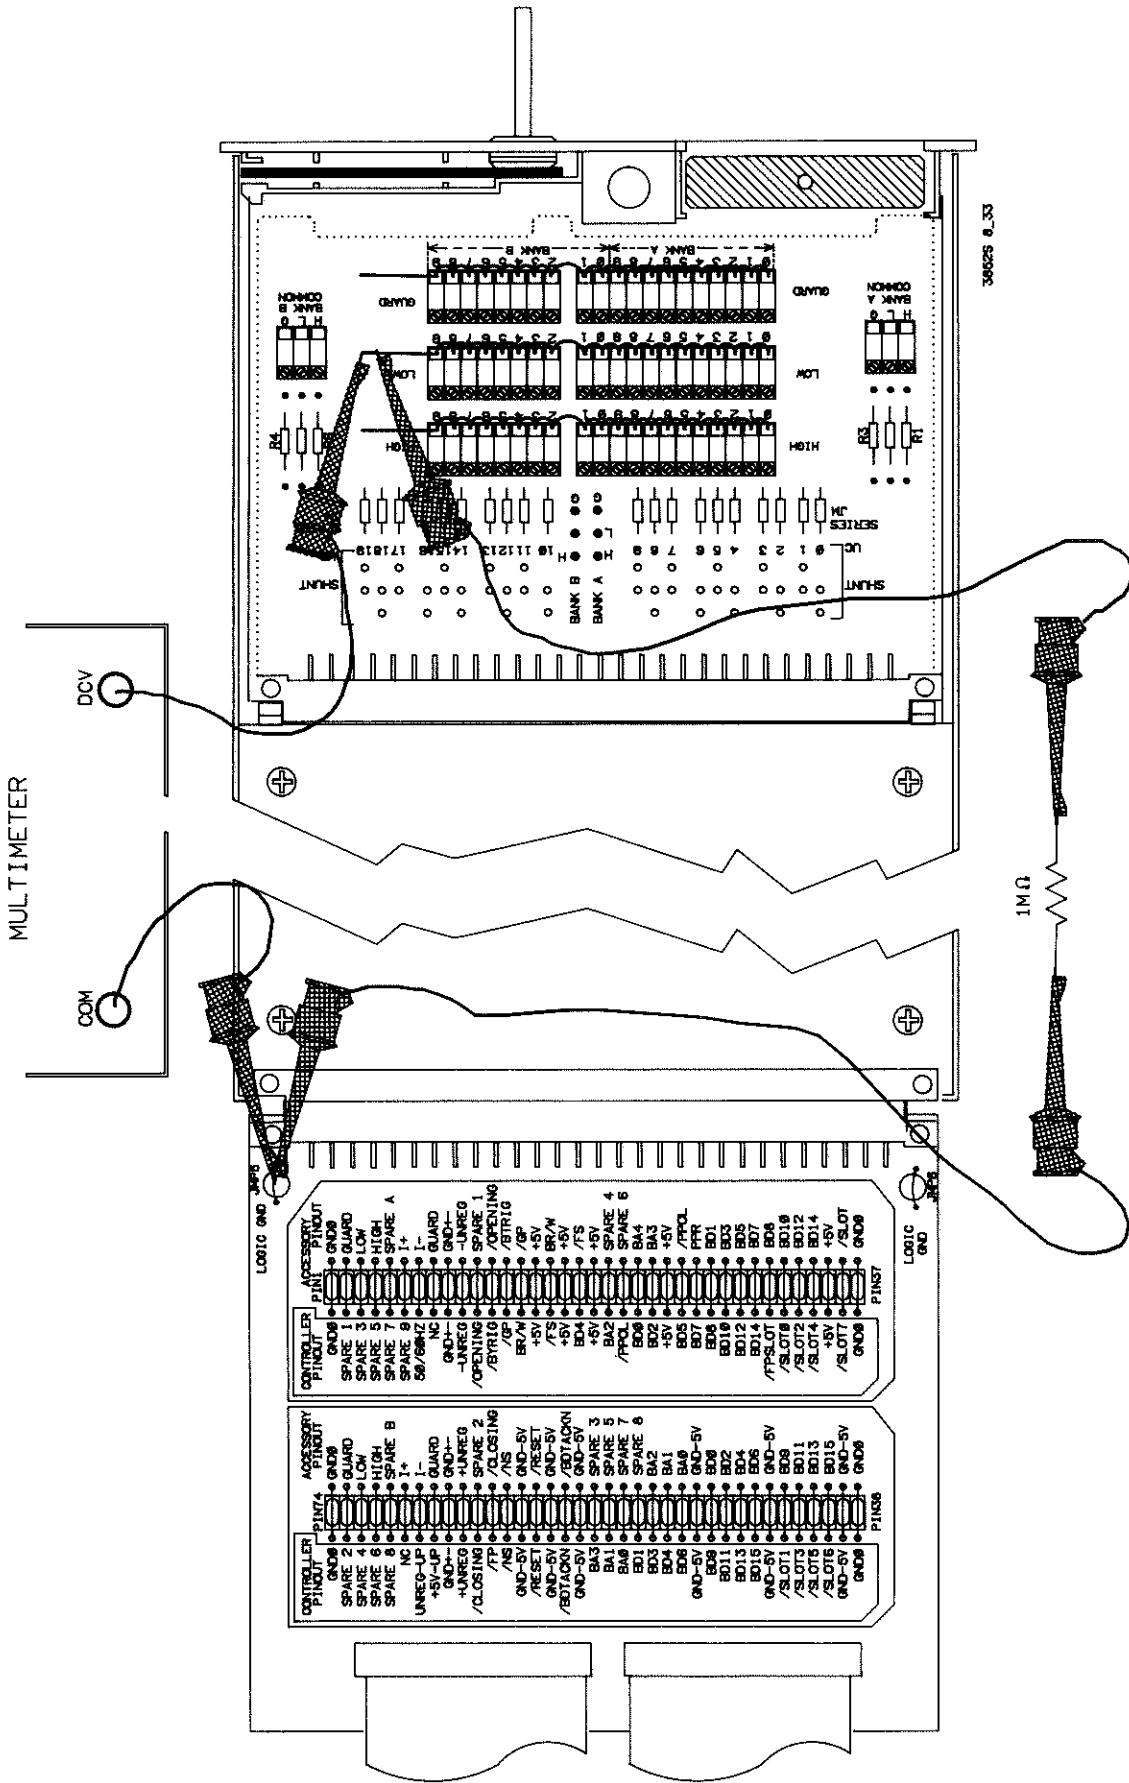

Figure 8-34 HP 44705A/H LOW Lines Injected Current
7. **LOW LINES INJECTED CURRENT TEST.** Move the multimeter DCV lead to the shorted LOW test point on the test fixture as shown in Figure 8-34.